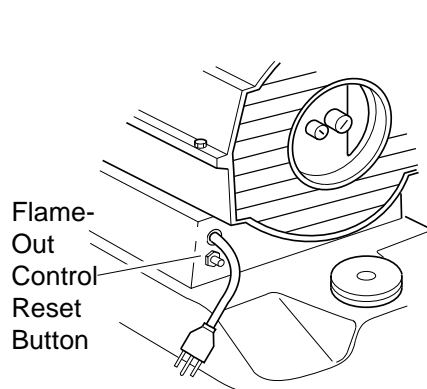

Figure 5 - Flame-Out Control Reset Button, 35/55,000 Btu/Hr Models
5. Plug extension cord into standard 120 volt/60 hertz, three-hole, grounded outlet. Heater will start when extension cord is plugged into outlet. If not, push in flame-out control reset button (see Figures 5 and 6).